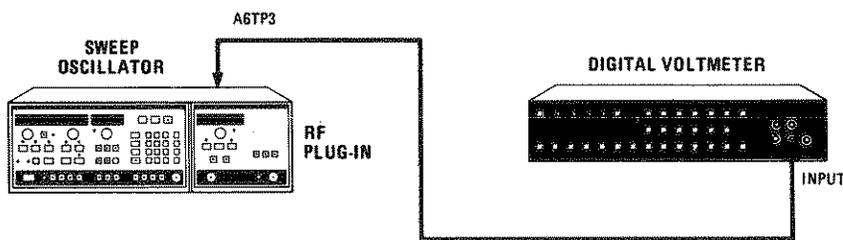

Figure 5-5. -10 Volt Reference Test Setup
1. Connect DVM to A6TP3 and common to A6TP5 (Figures 5-5 and 5-6).